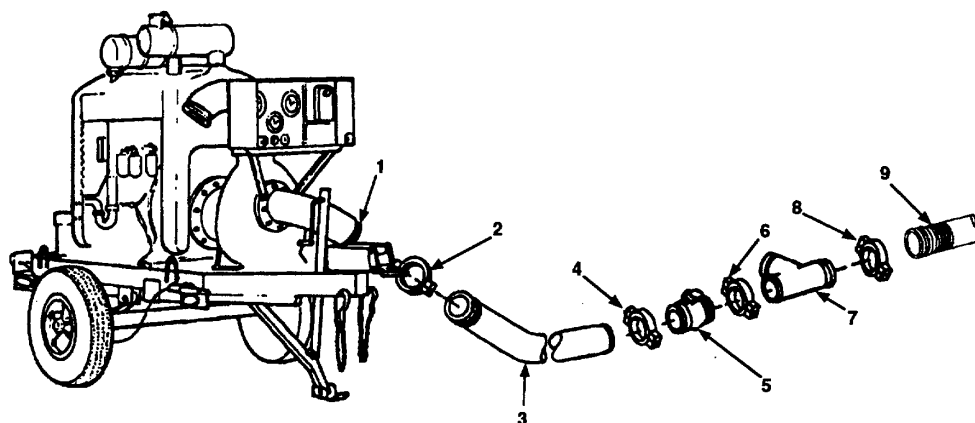

Figure 2-18. Boost Pumping Station and Suction Components Assembly.
- a. Remove plastic cap from suction port (Figure 2-18, 1) on 600 gpm pumping assembly, reference applicable technical manual for suction port location on 600 gpm pumping assemblies not shown. If plastic cap has not been removed, remove it and retain cap for movement or storage.